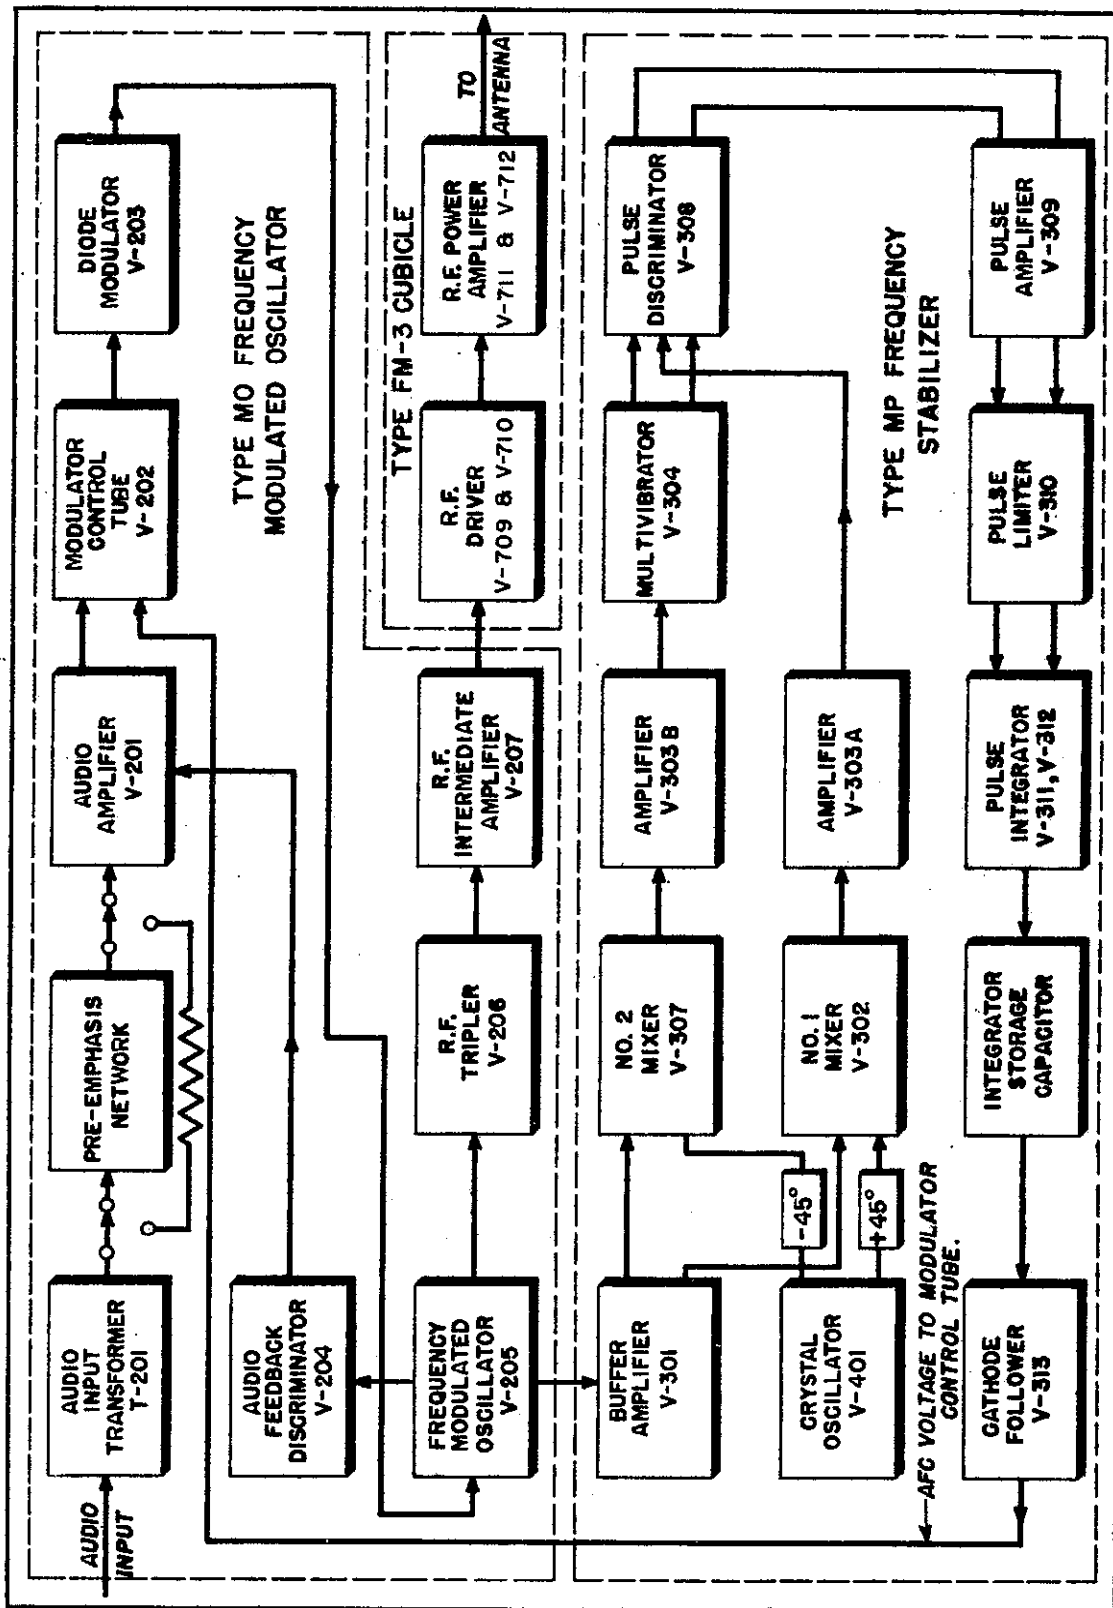

Figure 3-1—Functional Block Diagram of the Type FM-3 Transmitter
**RADIO FREQUENCY GENERATING CIRCUITS.** The circuits that determine the radiated frequency of the transmitter are located in the Type MO Frequency Modulated Oscillator Unit. They are shown in the upper section of the functional diagram, Fig. 3-1. The frequency modulated oscillator is a type 1614 tube connected in a Colpitts electron-coupled oscillator circuit. The grid circuit operates on a frequency that is 1/9 the output frequency of the transmitter. The plate circuit is tuned to 1/3 the output frequency so that the stage operates as both an oscillator and tripler.
These circuits are located in the Type MP Frequency Stabilizer unit. They are shown in the lower portion of the block diagram, Fig. 3-1. The operation of these circuits controls the modulated oscillator so that the frequency excursions above and below the assigned center frequency of the station will be equal during any single cycle of the modulating voltage. They also serve to stabilize the carrier at within  $\pm 1$  kilocycle of the assigned frequency when no modulation is present.
**RADIO FREQUENCY AMPLIFYING CIRCUITS.** The output of the Type MO unit is applied to the radio frequency amplifying circuits of the transmitter. These circuits consist of the Driver Stage and the 3 Kilowatt Amplifier Stage shown in Fig. 3-1.
These circuits are comprised of the audio amplifier V-201 with its input transformer and pre-emphasis network, the modulator control tube V-202, the diode modulator V-203 and the audio feedback discriminator V-204 shown on Figs. 3-1 and 6-3.
The functional relationship of the various circuits in the Type MP Frequency Stabilizer can be seen from the block diagrams Fig. 3-1 while the actual circuits themselves are shown on the schematic diagram, Fig. 6-4, and on the simplified schematic diagrams of the more complicated stages that will be found along with the descriptions.